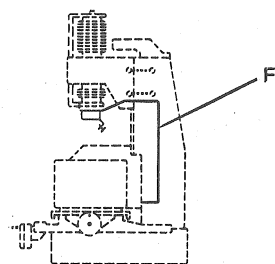

Fig 19
2. Connect the control cable (F) of the magnetic chuck (fig. 19).